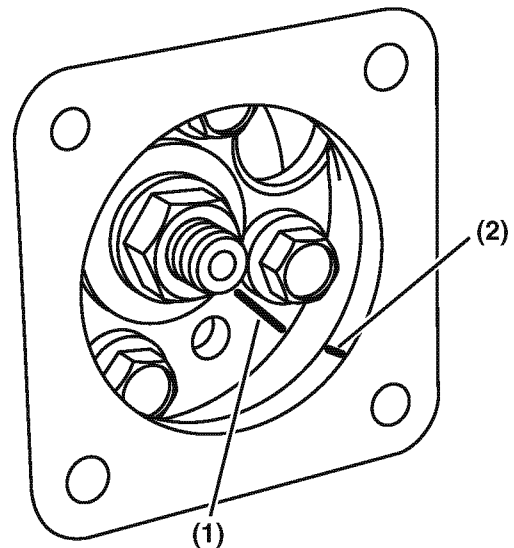

Figure 7-14
- On TNV82-88 model engines, the idler gear is not visible. Make a reference mark on the fuel injection pump drive gear (**Figure 7-14, (1)**) and a matching mark on the bore of the gear case opening (**Figure 7-14, (2)**).